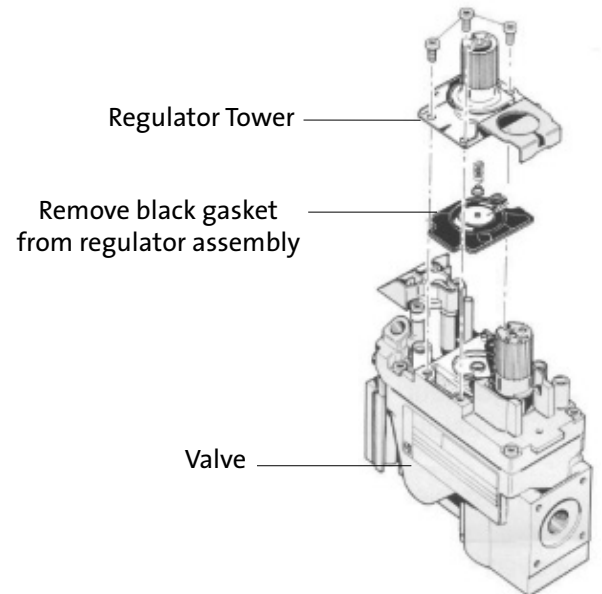

Figure 17 Regulator disassembly.
13. Remove the Variable Regulator. Using a Torx T-20 screwdriver, remove the three screws from the front of the valve regulator. See fig. 17.
14. Remove the Regulator Tower, Gasket, white plastic disk, and Spring. Remove the black rubber gasket from the valve. See fig. 17.